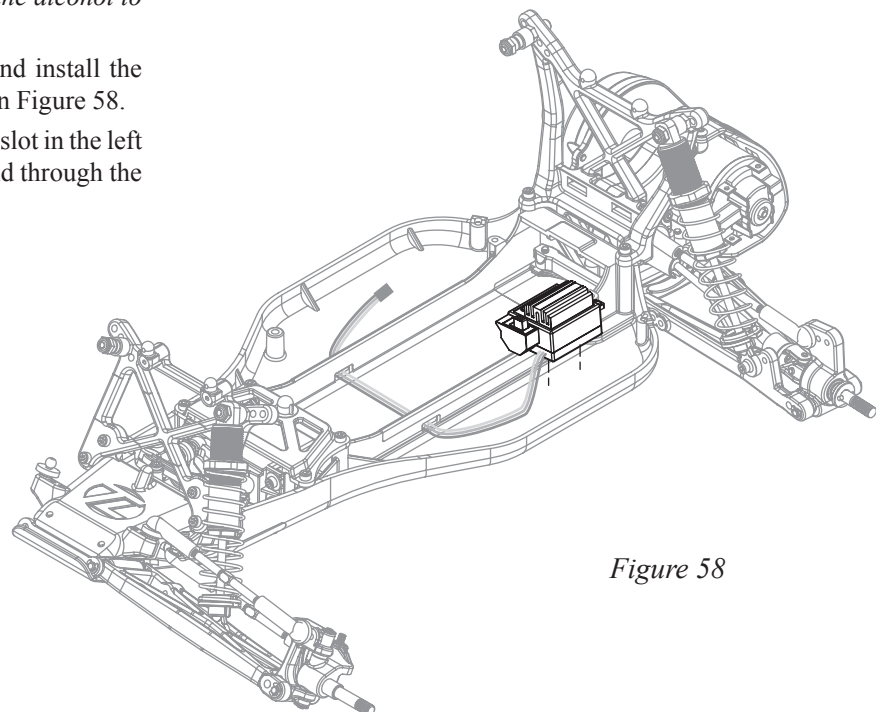

Figure 58
- 1. Cut a piece of Two Sided Tape (156) to the same size as the bottom of the speed control (*not included*). Peel one side of the backing off and stick the Tape to the bottom of the speed control.
- 2. Make sure that the area on the left side of the Chassis (19) is clean. Wipe this area off with a clean cloth or rag.
- 3. Peel the backing off of the Two Sided Tape and install the speed control to the left side of the Chassis as shown in Figure 58.